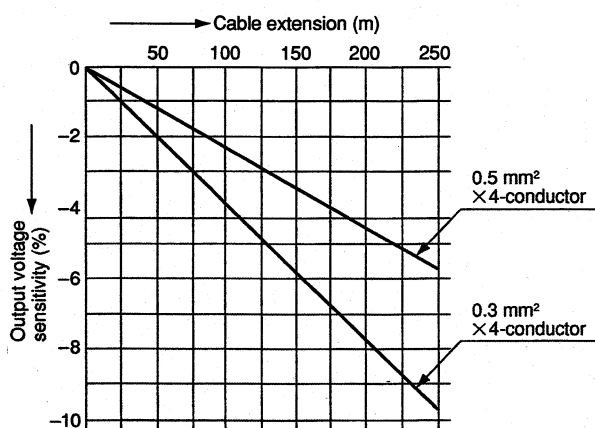

Fig.8 Output sensitivity change due to cable extension
- 7.4 Where the cable (5m long as standard) is extended, correct the reading, using the following equation. (See Fig.8.)